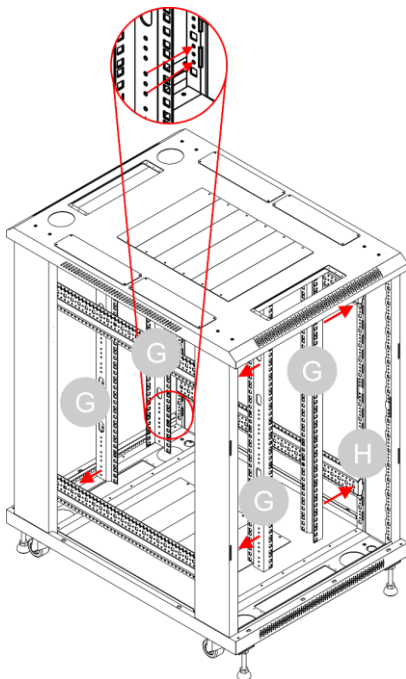

Fig. 31
- 15) Put the 4 **vertical brackets (G)** in front of the **horizontal brackets (H)**. Make sure that the holes of the **vertical brackets (G)** align with the holes of the **horizontal brackets (H)**, as shown in Fig. 31.